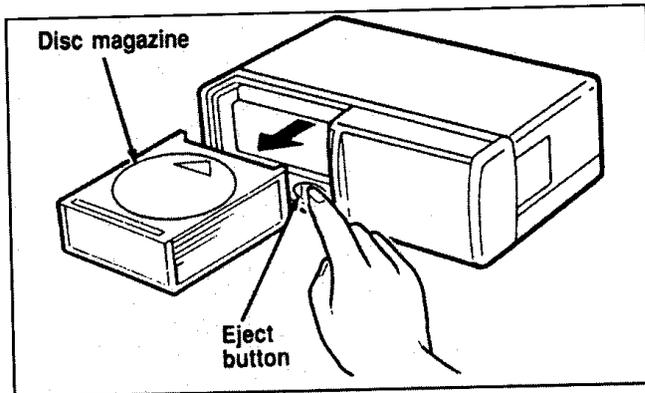

Figure 2
2. Push the  button to eject the disc "magazine" (holds 6 discs) (Figure 2).